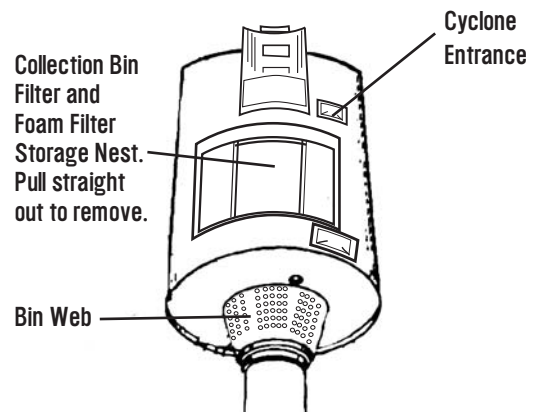

Figure 19a
1. Pull out any lint or debris clogging the Cyclone Entrance. (See Figure 19a.)